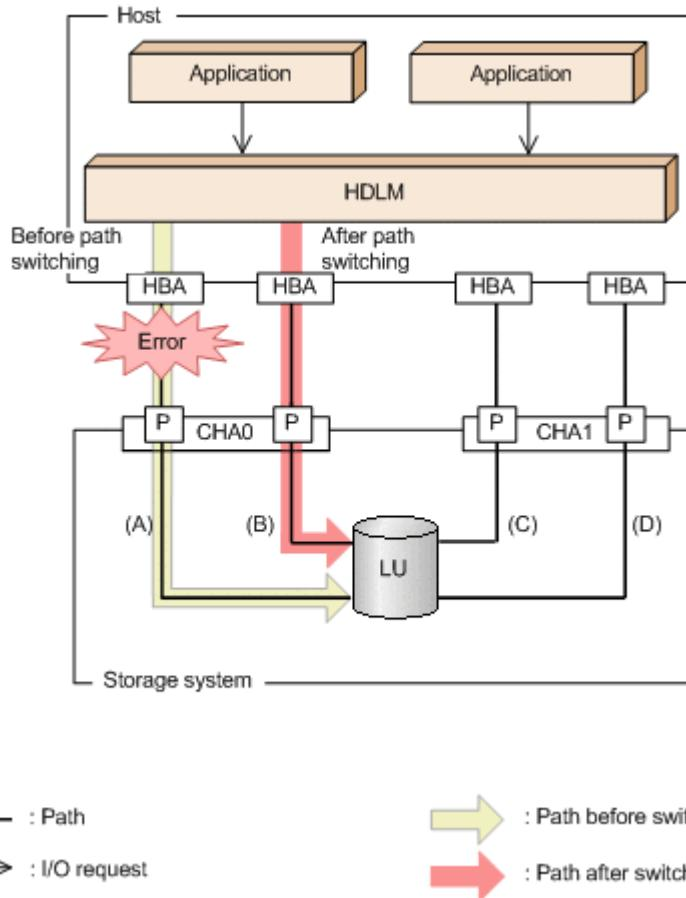

Figure 2-10 Path Switching
For example, in *Figure 2-10 Path Switching on page 2-19*, the owner controller of an LU is CHA0, and access to the LU is made via only one path (A). After that access path (A) is placed offline, the first choice for the switching destination is the other path connected to CHA0 (B). If an error also occurs on that path (B), then the next possibility for a path comes from one of the two paths (C or D) connected to CHA1.
When the Hitachi USP series, Universal Storage Platform V/VM series, Virtual Storage Platform series, VSP G1000 series, Hitachi AMS2000 series[#], Hitachi SMS series[#], HUS100 series[#], or HUS VM is being used, all the paths are owner paths. This means that all the paths that are accessing the same LU are possible switching destinations. For example, in *Figure 2-10 Path Switching on page 2-19*, the LU is accessed using only the one path (A). However, after that path is placed offline, the switching destination can come from any of the other three paths (B, C, or D).